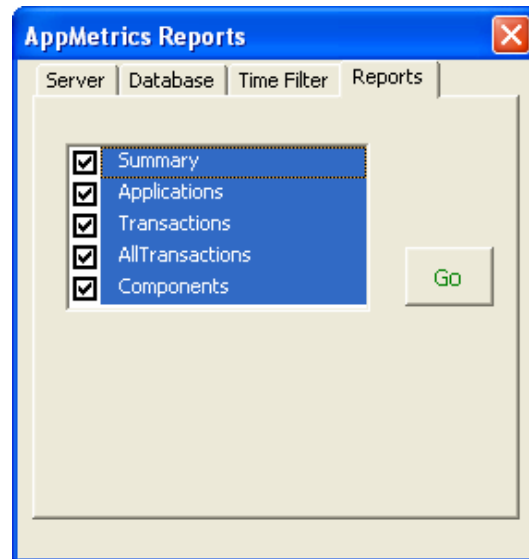

Figure 4
5. Click on the **Reports** tab, and select the specific report components you wish to see generated (see Figure 4).